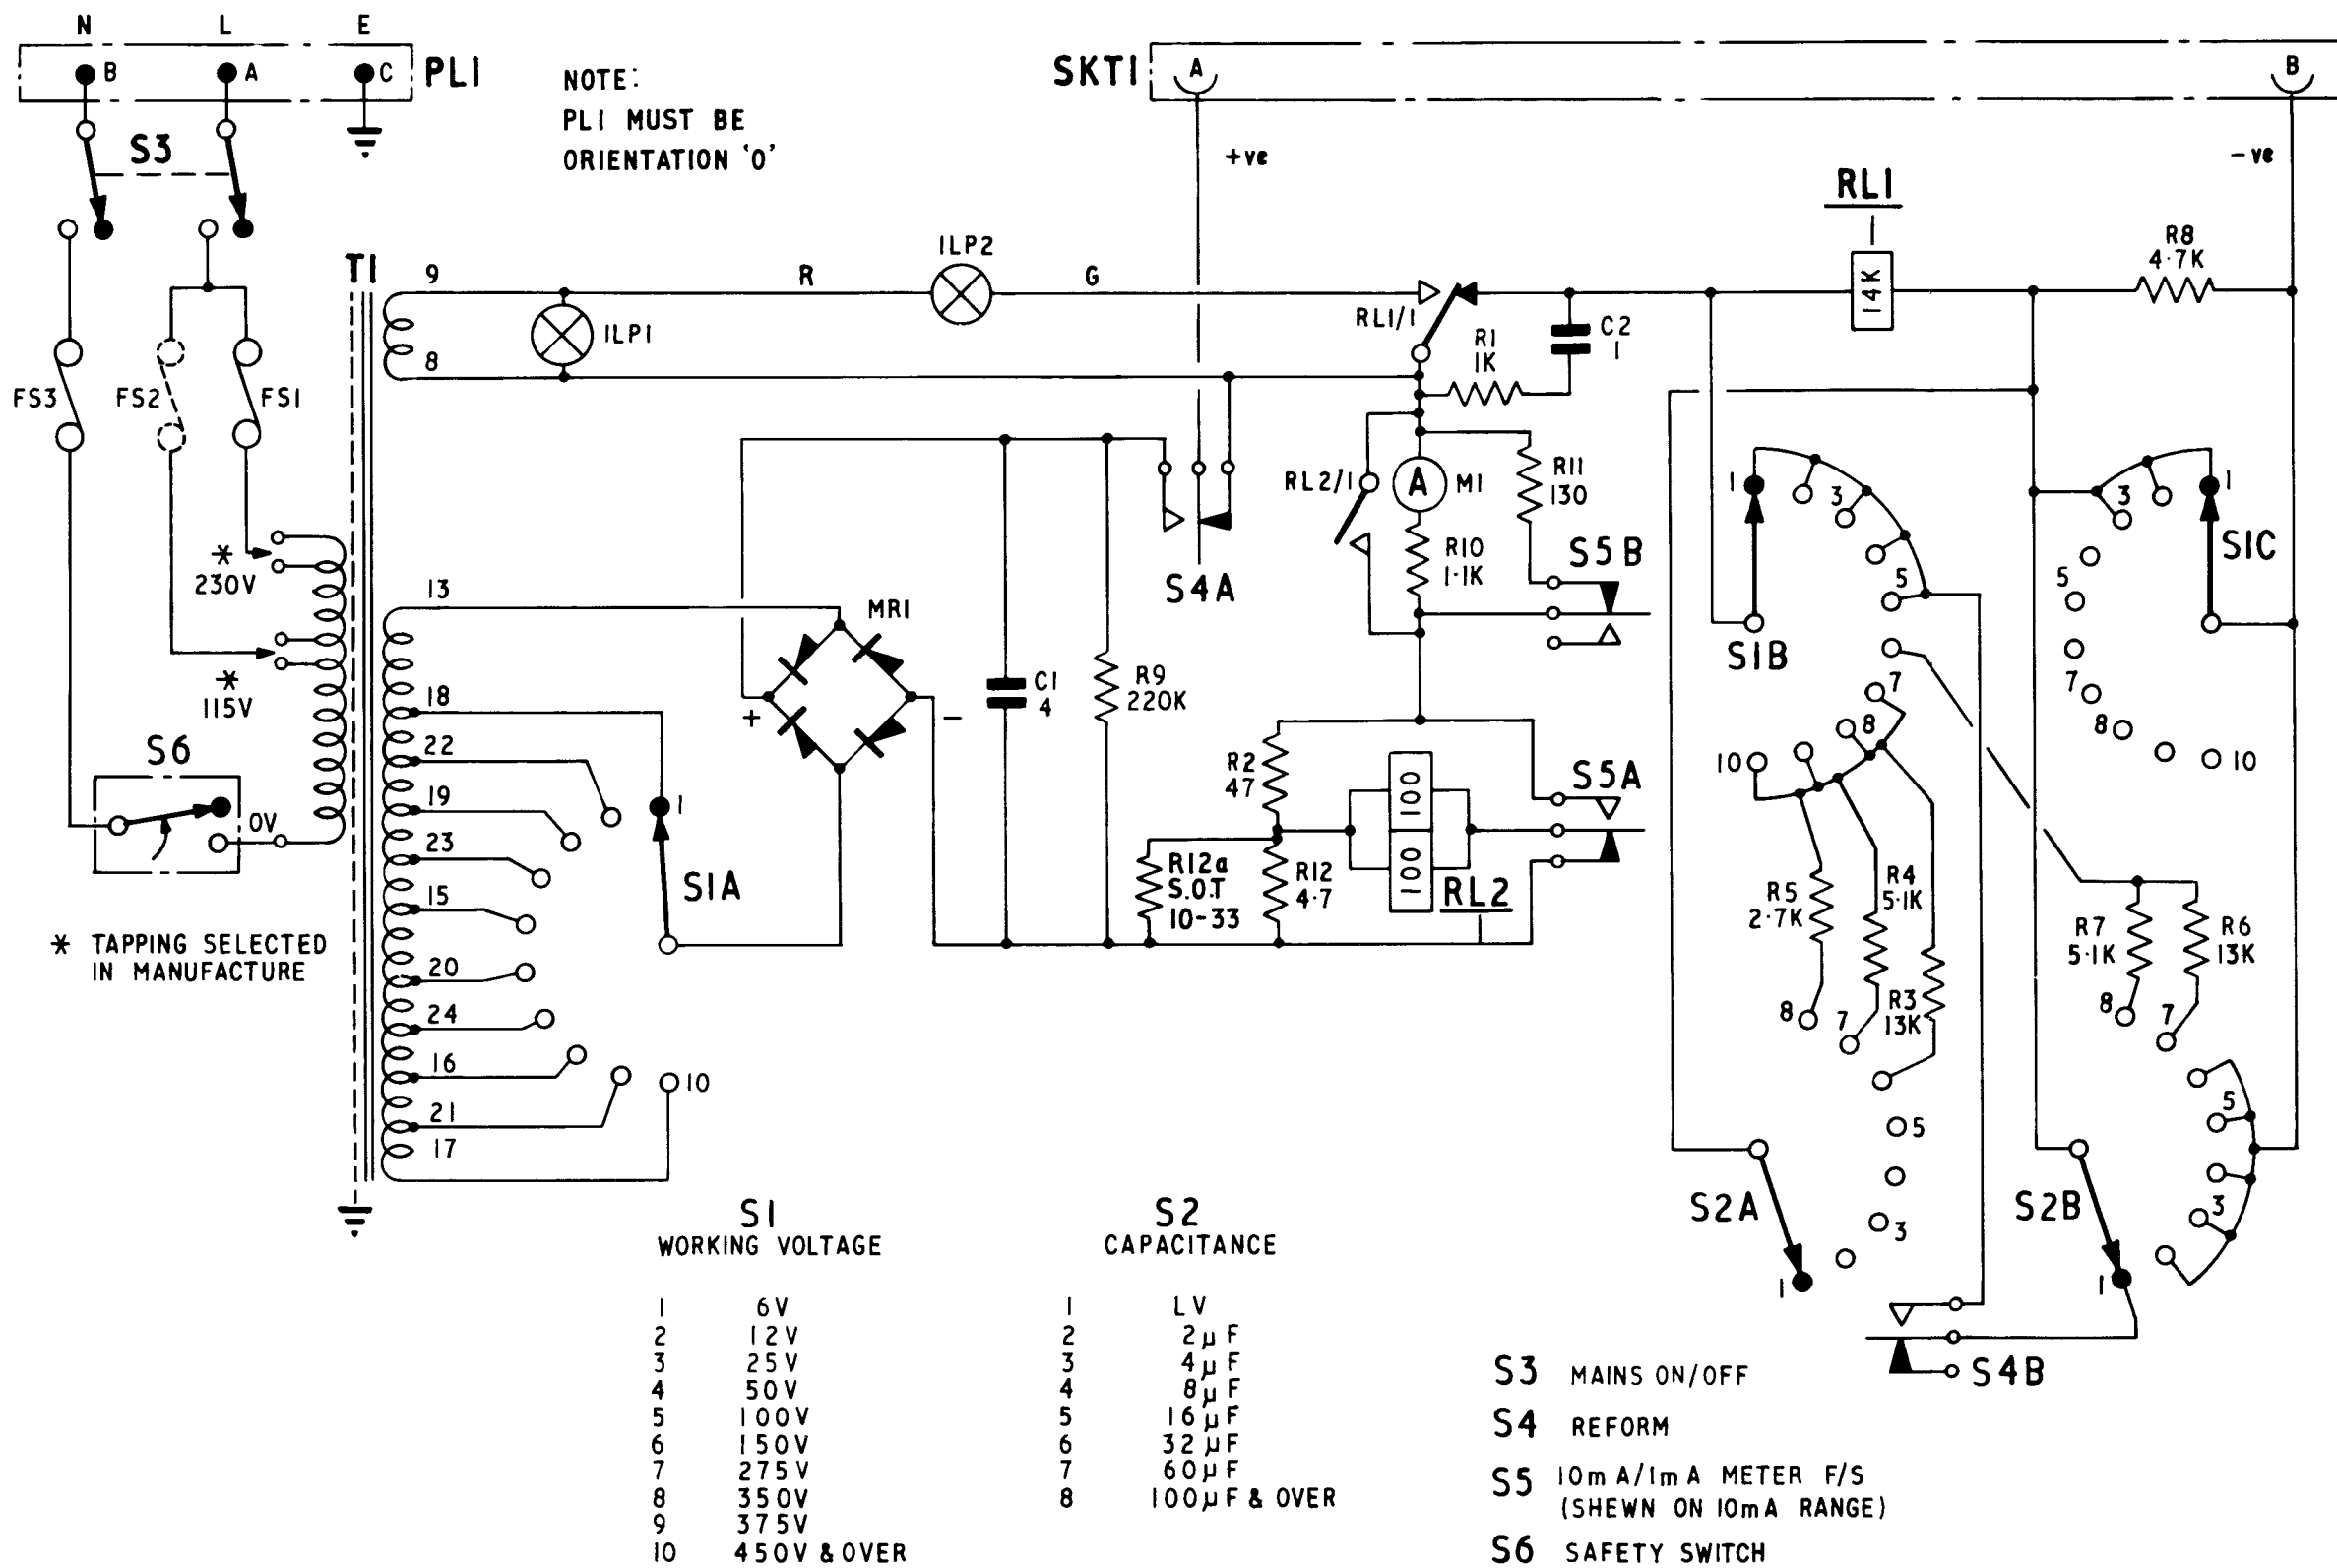

Fig. 5. REFORMING UNIT, ELECTROLYTIC CAPACITOR, No.1, EQUIPMENT
8. The unit (fig.5) includes a power pack, range switches, an interrupter circuit, and indicating circuits. The power pack provides the required reforming supplies, and the range switches control the reforming voltage, and adjust the circuitry to suit the type of capacitor being serviced. The interrupter circuit reduces the possibility of the capacitor being damaged through excessive current flow. The indicating circuits provide lamp indications on some reforming and all discharge ranges, and meter indications of the current on all reforming ranges.
16. The interrupter relay RL1 is in circuit on all ranges when the REFORM switch S4 is at its normal or 'discharge' position, and is also in circuit on WORKING VOLTS settings of 150V or more. From figure 5 it will be seen that the winding of RL1 and the 'break' side of contacts RL1/1 are connected in series in the negative reforming supply line, while the 'make' side of RL1/1 is connected across a circuit which includes the 6V winding of T1 and a green REFORM indicating lamp ILP2. When capacitors with a working voltage or less than 150V are being serviced, the relay winding is automatically short-circuited when the REFORM switch is depressed and, consequently, the relay is inoperative. If the REFORM switch is depressed on any other WORKING VOLTS setting, the capacitor reforming (leakage) current will flow continuously through the relay windings and contacts so long as the current is less than approximately 0.6mA. If the current exceeds this value, however, relay RL1 will be energized and contacts RL1/1 will break the reforming circuit and make the indicating lamp circuit, causing ILP2 to light. Since RL1 is now de-energized, the contacts will return to their original position, re-connecting the reforming supply and extinguishing ILP2. This sequence will continue, the reforming voltage being applied to the capacitor in pulses (with
19. In figure 5, switches S1 and S2 are shown adjusted for capacitors of 6V.W., that is, S1 is set to 6V and S2 is set to LV (the latter setting is used for all capacitors having a working voltage of less than 150V, regardless of the capacitance). If the REFORM switch S4 is now depressed, resistor R8 will be short-circuited by S1C and the winding of relay RL1 will be short-circuited by S2B, S4B and S1B. Consequently, at this control setting the capacitor is connected, in series with the leakage, current meter M1, directly across the selected reforming supply.